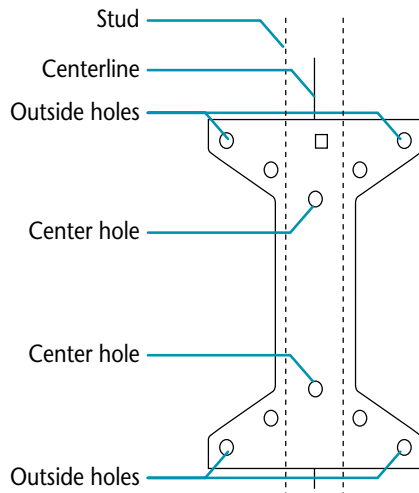

Figure 4-35. Base plate hole locations
2. Place the base plate so the center holes align with the centerline of the stud (see figure 4-35). While holding the base plate in place, use a pencil to mark the location of the top center hole onto the mounting surface. This mark indicates where you will be drilling later.